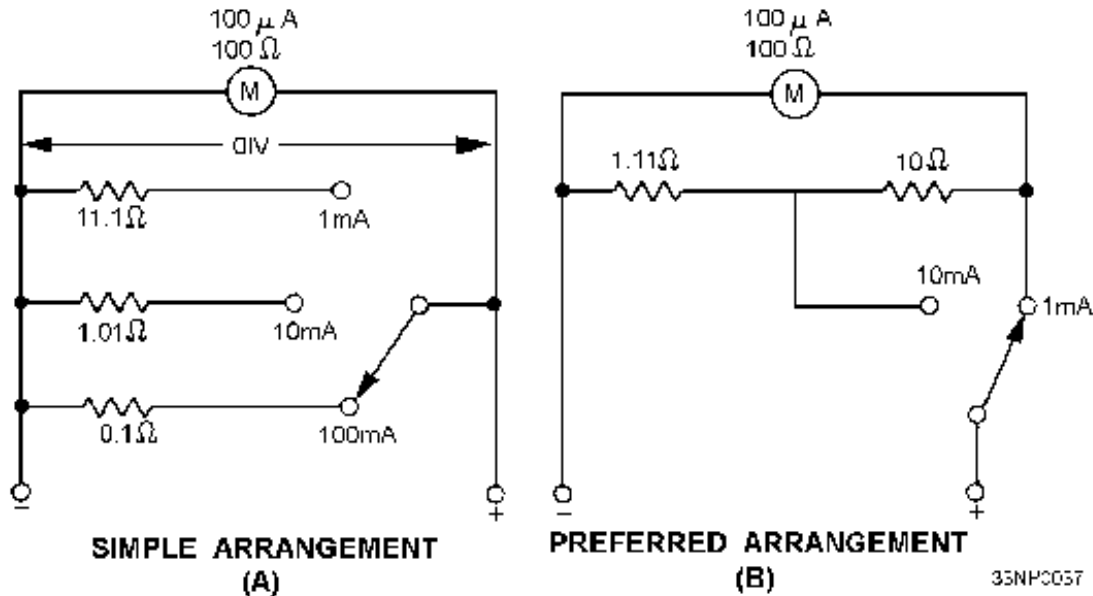

Figure 3-5.—Ways of connecting internal meter shunts.
**SWITCHING SHUNT VALUES.**—Various values of shunt resistance can be used, by means of a suitable switching arrangement, to increase the number of current ranges that can be covered by the meter. Two switching arrangements are shown in figure 3-5. View A is the simpler of the two arrangements when a number of shunts are used to calculate the values of the shunt resistors. However, it has two disadvantages:
The generally preferred method of range switching is shown in (figure 3-5, view B). Although only two ranges are shown, as many ranges as needed can be used. In this type of circuit, the contact resistance of the range-selector switch is external to the shunt and meter in each range position. The contact resistance in this case has no effect on the accuracy of the current measurement.